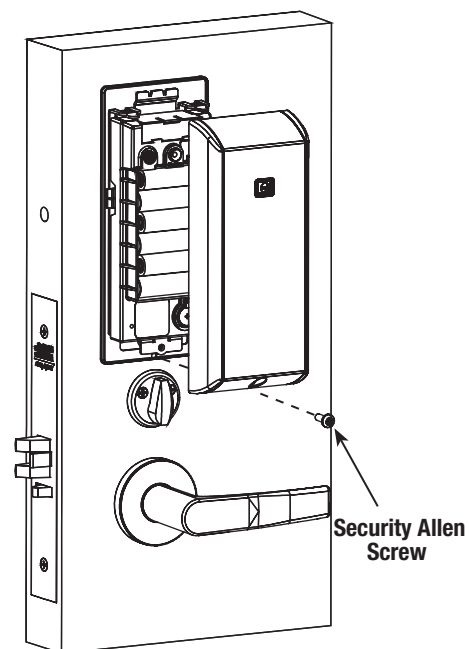

Fig. 19
- c. Fully secure cover by tightening the security screw at bottom of cover (Fig.19), utilizing a security allen wrench.